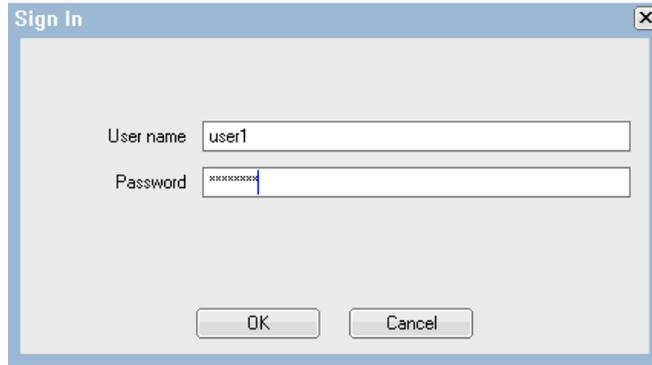

Figure 5-33 Login dialog box on the CP20's local interface when using the Hosted Desktop software
1. At the CP20, click **Connect**. You are prompted for a user name and password. Enter the user login information that you created on the Hosted Desktop software earlier (see Figure 5-33). Click **OK**.